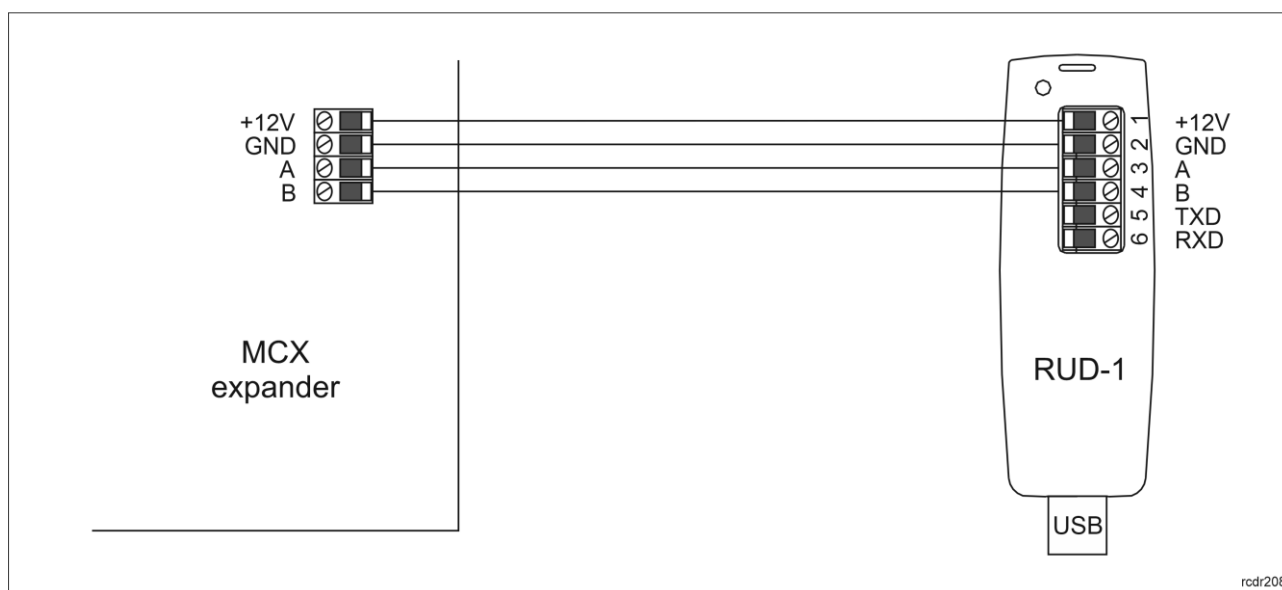

Fig. 6 Connection to RUD-1 interface (low level configuration)
1. Connect the device to RUD-1 interface (fig. 6) and connect the RUD-1 to computer's USB port.